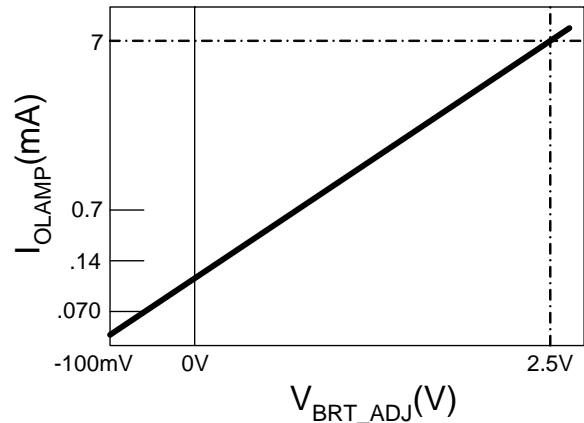

Figure 9 – Average Lamp Current vs. VBRITE Voltage (per Lamp)
1. By varying the input voltage on the brightness pin as indicated in Figure 9. Caution must be exercised when applying negative voltage to the brightness control input. Applying more than -300mV to any inverter input will cause inverter malfunction (see Absolute Maximum Ratings).